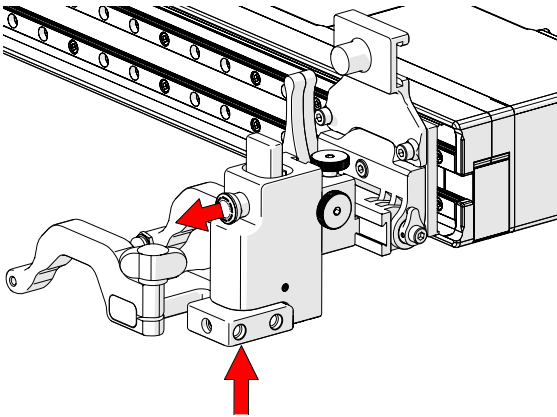
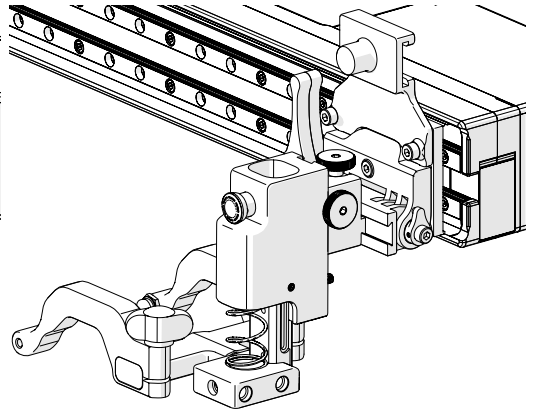

Fig. 132 - Press up and pull latch
Fig. 133 - Lowered toward scan surface
1. Gently lift the heavy duty vertical probe holder and simultaneously pull the latch (*Fig. 132*). This action will unlock the probe holder. Slowly lower the probe holder towards the scan surface (*Fig. 133*).